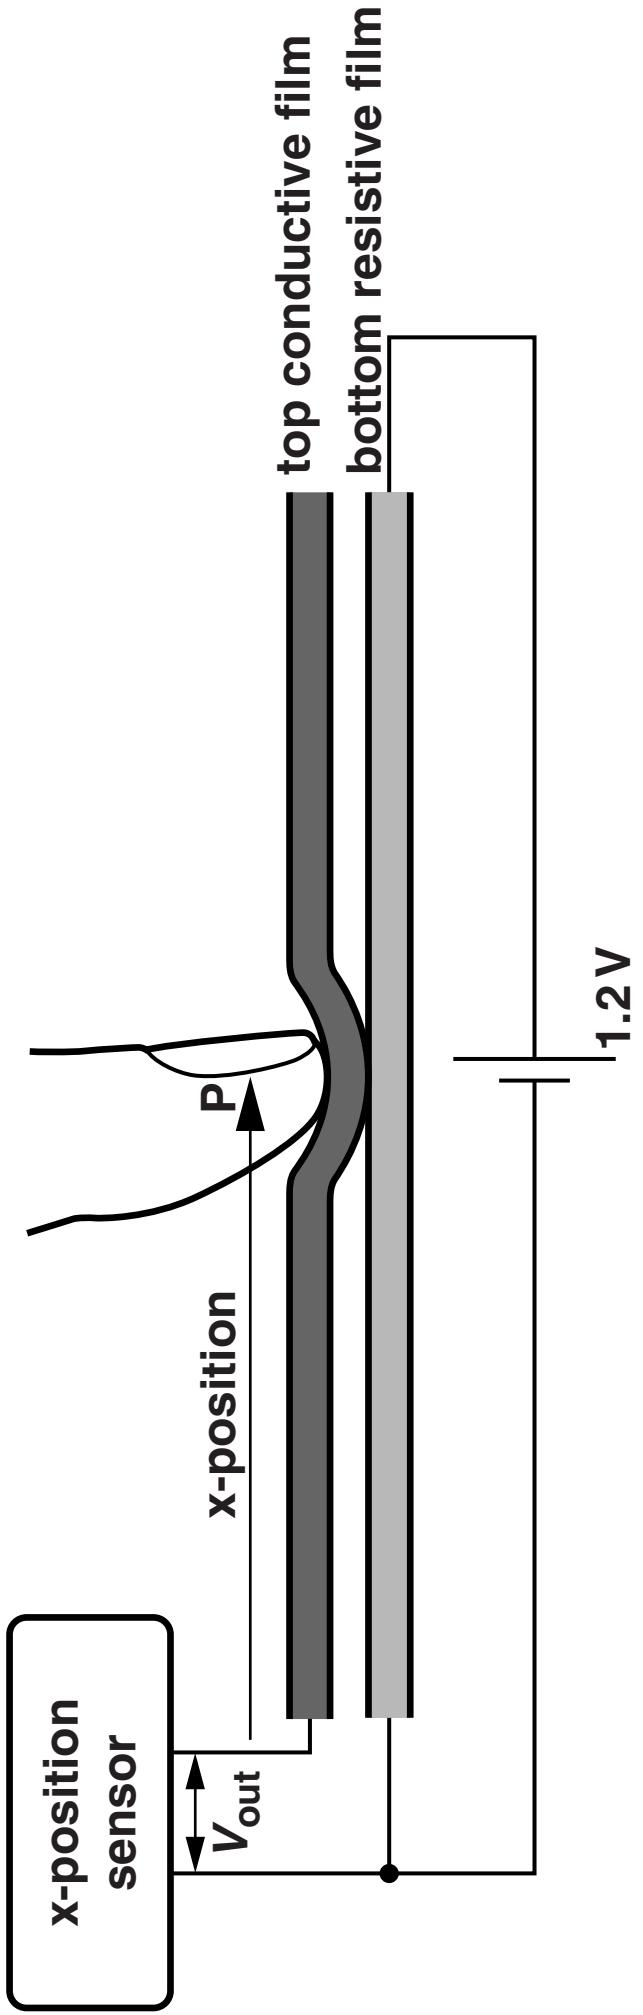
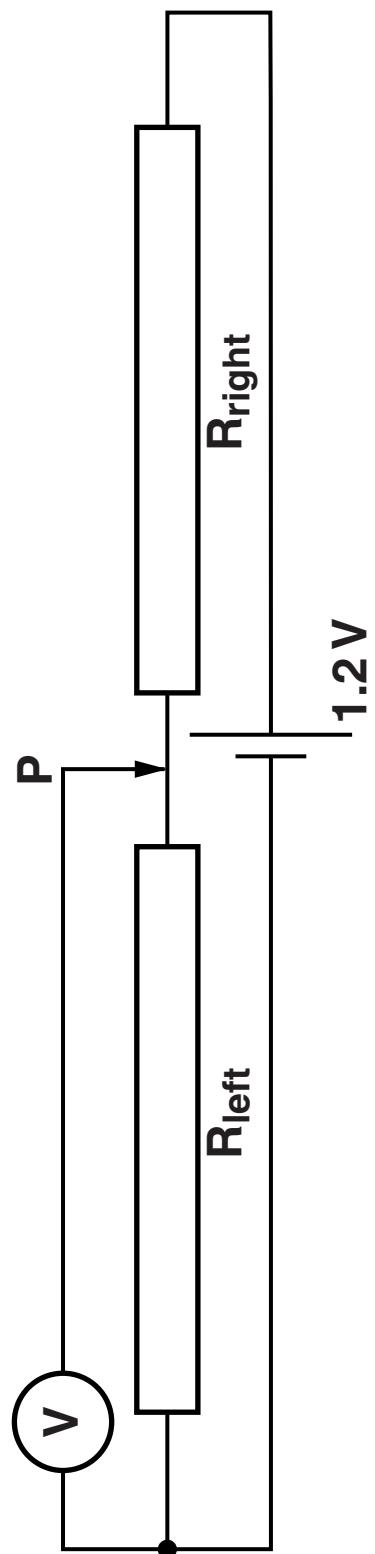

FIG. 10.2a
FIG. 10.2b
- (c) Fig. 10.2a shows the circuit connections to measure the x-position on the touch-sensitive screen. Fig. 10.2b shows the equivalent potential divider circuit using conventional circuit symbols. Point P represents the point of contact between the films.